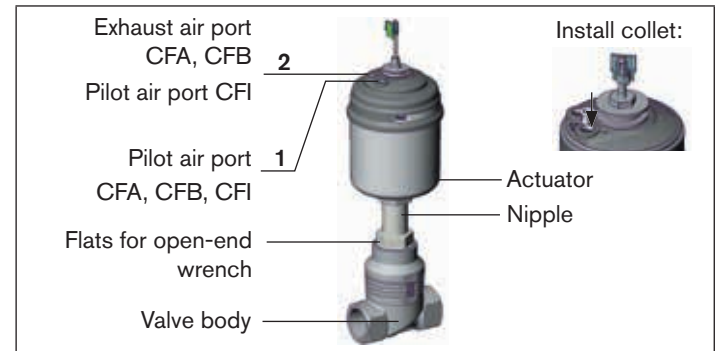

Fig. 3: Installation
- Control function A pressurize the pilot air port 1 (see "Fig. 3") with compressed air (5 bar): valve opens.